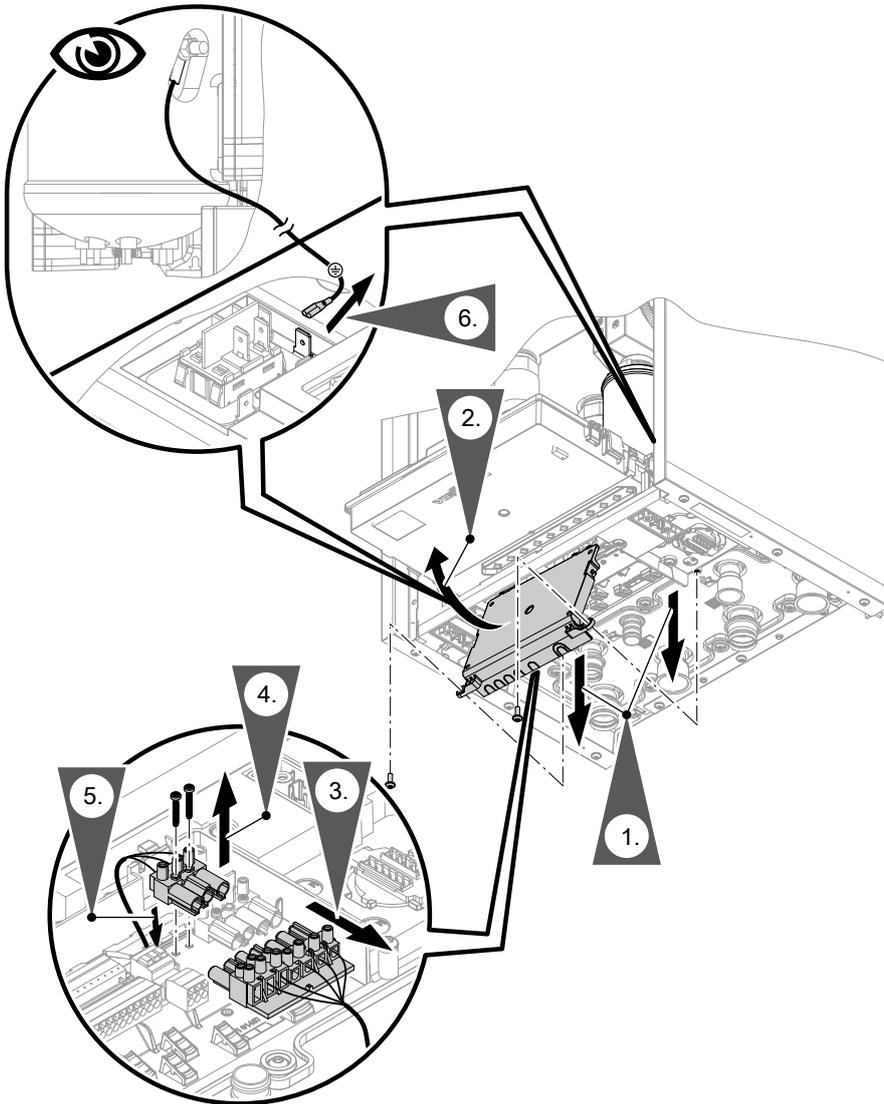

Fig. 77
- Power cable plug: See chapter "Instantaneous heating water heater power supply" and Fig. 77.